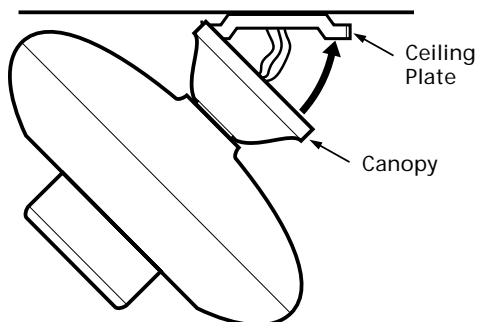

Figure 6a - Attaching Canopy to Ceiling Plate
1. Swing the fan up so as to align the canopy screw holes with the mounting holes on the ceiling plate. Refer to Figure 6a.